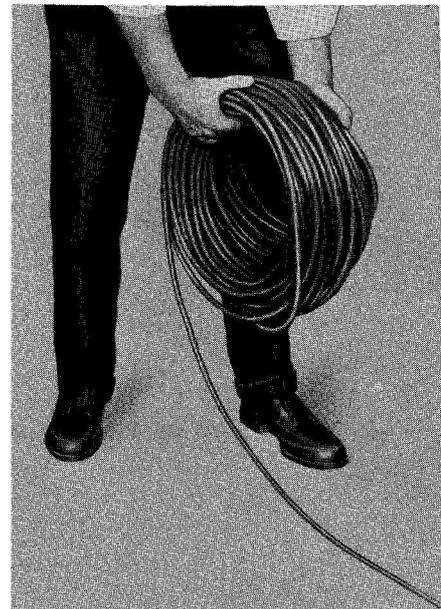

Fig. 3 — Paying Out Cable
**2.03** To pay out cable, remove cable from coil by paying it off from outside of coil (Fig. 3).